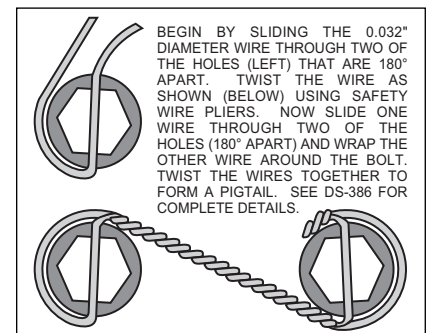

Figure 5. Safety Wire Diagram
- Slide the caliper mounting bracket kit assembly (1) onto the housing flange and then insert the axle assembly through the center hole of the caliper mounting bracket assembly (1). Align the bearing retainer (2) with the four holes inside the bracket assembly (1) and secure using the stock Original Equipment Manufacturer (OEM) bolts and nuts. Stock OEM hex nuts that retain the caliper mounting bracket assembly (1) and retainer (2) should be on the wheel side of the bracket. Apply red *Loctite*® 271 to the stock OEM bolt threads and torque to OEM specifications. Make sure the heads of the caliper mounting bracket assembly (1) insert nuts are FACING OUTWARD TOWARDS THE WHEEL.
- Bolt the hat (3) to the rotor (4) using washers (5) and bolts (6). Torque bolts (6) to 103 in-lb. Safety wire rotor bolts (6), see Figure 5.
- Verify wheel stud pattern and size, then have a qualified machine shop drill the hats to the correct wheel stud pattern and size. Slide the hat/rotor assembly (3 and 4) over the wheel studs covering the mounting bracket assembly (1) and against the axle flange face.